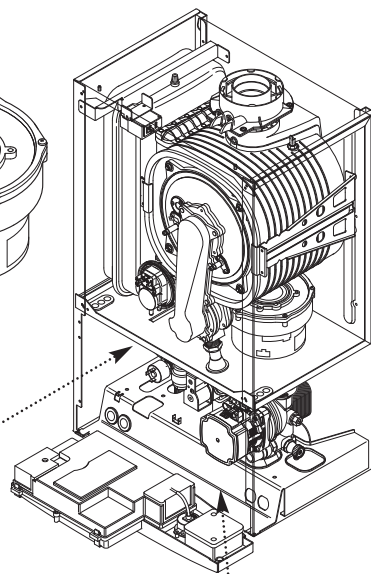

Fig. 49
15. Turn the tap off and draw off from a hot tap. Undo the blanking cap and remove the threaded bush (Fig. 49).